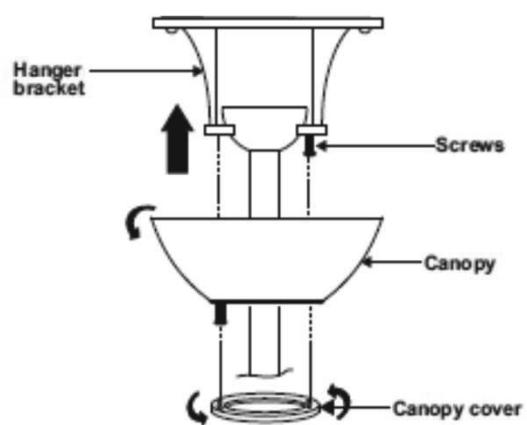

Figure 13
5. Slide the canopy up to the hanger bracket and place the key hole on the canopy cover over the screw on the hanger bracket. Turn the canopy until it locks in place at the narrow section of the key holes. Note: adjust the canopy screws as necessary until the canopy and canopy cover are snug. (Fig.13)